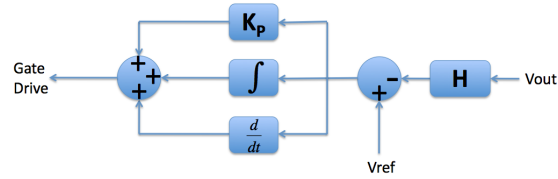

FIGURE 5. The initial PID controller I designed.
3.2. Process Limitation: No Negative Voltage. Use of the negative voltage rail allows a PID controller to be directly implemented in the feedback path. A negative voltage allows me to create an op amp differentiator around a zero point, so that a V_{out} that is too high can directly cause a gate voltage to compensate. My initial design assumed I had access to this negative voltage, so my controller looked like Figure 5: